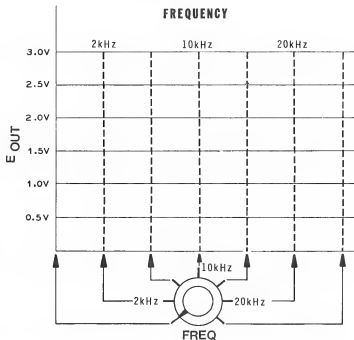

Figure 2-86
- Connect the voltmeter across R . Using the procedure outlined in steps 4 through 8, plot the response curve for this circuit. Use the graph shown in Figure 2-86 to plot the curve.